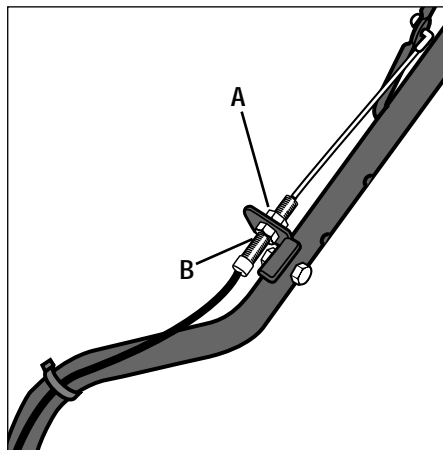

Figure 5-2: Belt tension adjustment.
2. Adjust the positions of the two jam nuts on the control cable adjuster (see Figure 5-2) as described below:
Move the upper nut (A, Figure 5-2) upward one or two full turns, then move the lower nut (B) upward. Tighten both nuts securely. Test unit and readjust jam nuts as needed.
Move the lower nut (B, Figure 5-2) downward one or two full turns, then move the upper nut (A) down. Tighten both nuts securely. Test the unit and readjust jam nuts as needed.